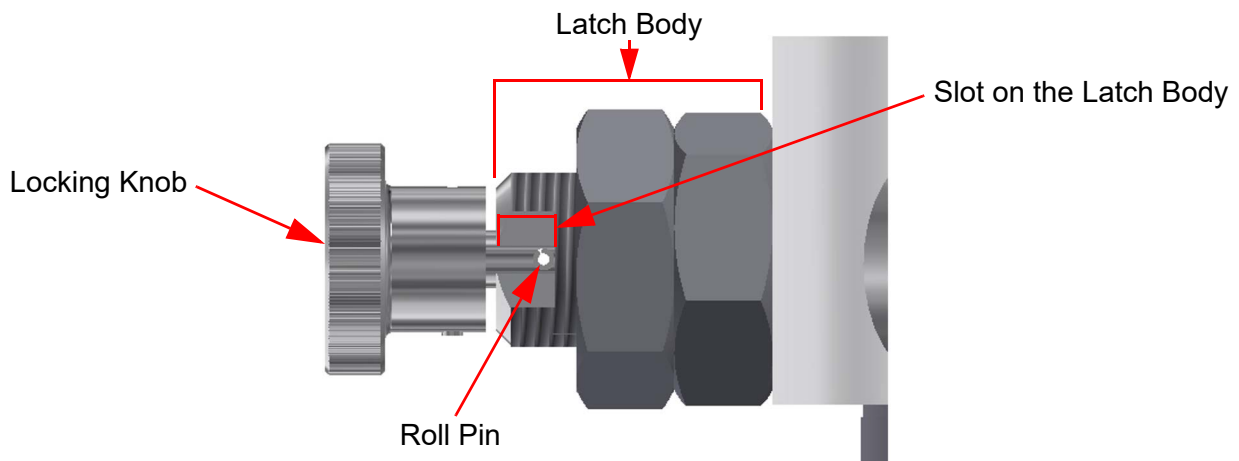

Figure 5-2 Locked Collar View
9. Unlock the top tube collar. To unlock the collar, pull on both locking knobs and rotate them 90°. Continue pulling until the roll pin is disengaged from the slot on the latch body and release. At this point, the locking pins should be disengaged (Figure 5-2).
11. Once the tube is fully extended, relock the top tube collar. To relock the collar, pull out both locking knobs and rotate 90° until the roll pin goes back into the slot of the latch body (Figure 5-2).